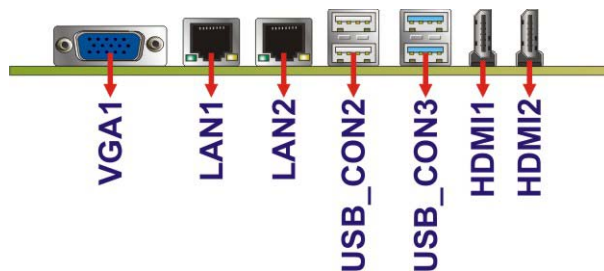

Figure 4-20: External Peripheral Interface Connectors
Figure 4-20 shows the motherboard external peripheral interface connector (EPIC) panel. The EPIC panel consists of the following:
- CN Location: See **Figure 4-20**
CN Location: See **Figure 4-20**